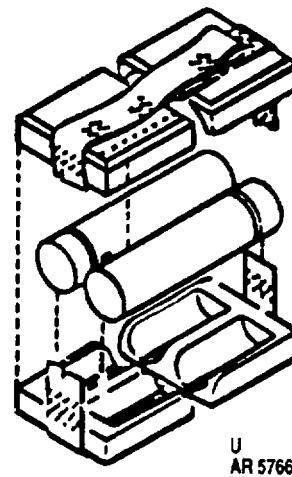

Figure 3-11.1. Grenade/spacer assembly.
(1) Lay bottom halves of spacer on flat surface (fig. 3-11.1).
(2) Position a pair of grenades in spacer contours with contact ends facing opposite directions.
(3) Align slider/borerider facing toward the adjacent grenade (fig. 3-11.1).
(4) Position top halves of spacer on top of grenades.
(5) Assure that slider/borerider is properly aligned.